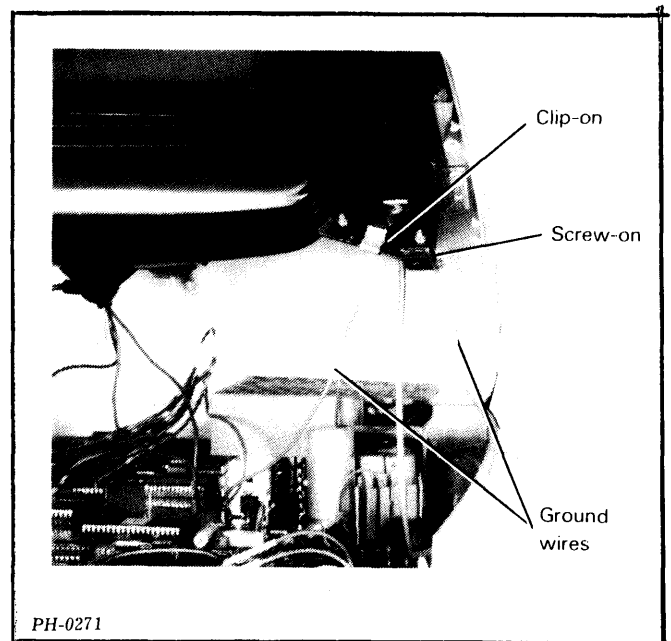

Figure 8.21 Ground wires
6. Reattach the two ground wires from the main board to the CRT support bracket (see figure 8.21).